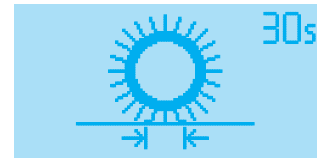

Figure 7
- Lower the main broom with the One-Touch push-button (52).
- Start broom rotation by pressing the One-Touch push-button (52) again and holding it down for 3 seconds.
- After 30 seconds of broom operation (visible on the display, as per Figure 7), raise it by pressing the One-Touch push-button (52).